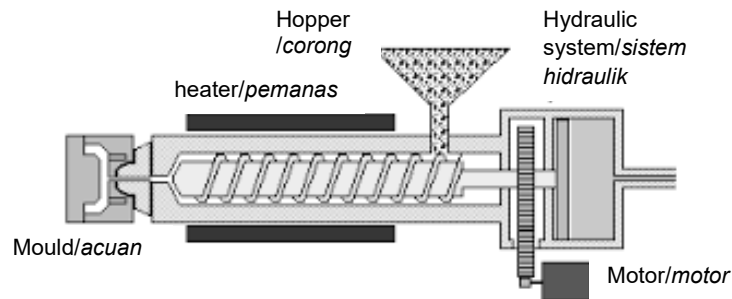

Figure 3:Injection molding system
- (3). (a). **Figure 3** shows a typical injection molding system. By assuming the process of injection is steady flow, the energy balance equation can be established. Describe the energy balance and the mechanism of energy transfer during the process.